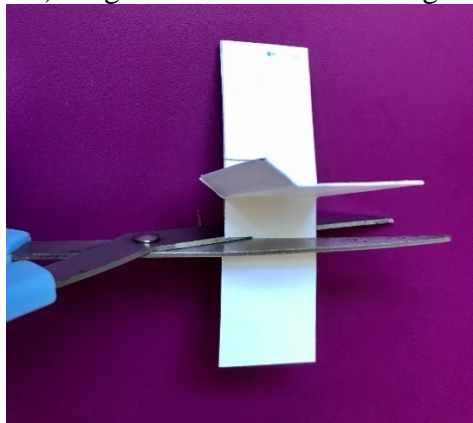

Figure 9. Make 0.33 inch long cuts about 1.5 inches in from each end
10. Make two 0.33 inch (0.8 cm) cuts into the horizontal stabilizer to form two elevators about 1.5 inches (3.8 cm) long from either end. See Figure 9.